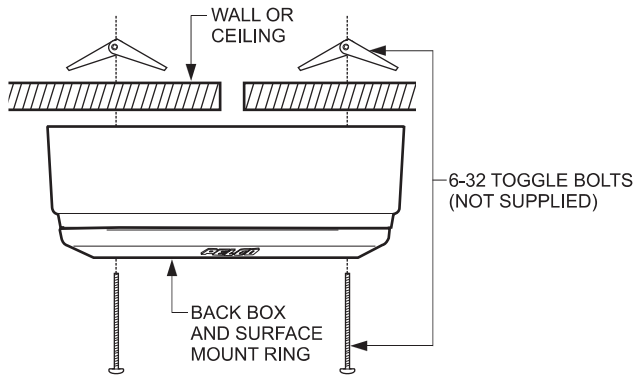
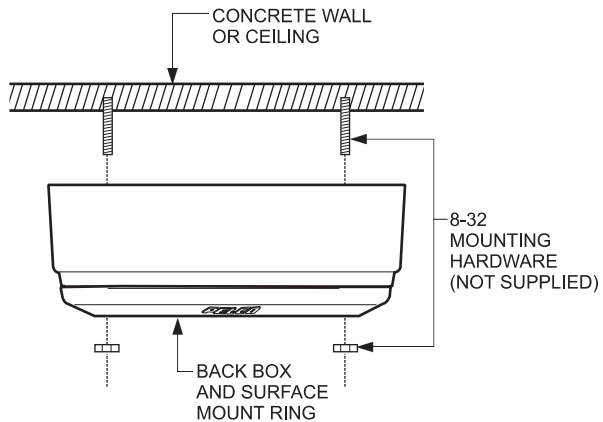

Figure 2. Ceiling/Wall Installation
Figure 3. Concrete Ceiling/Wall Installation
Refer to Figure 2 on page 8 for the following steps. Refer to Figure 3 on page 8 if you are installing the unit to the surface of a concrete ceiling or wall.
- Use 6-32 toggle bolts (not supplied) to attach the surface mount ring and back box to the mounting surface (refer to Figure 2).
NOTE: For a concrete ceiling or wall installation, use 8-32 mounting hardware (not supplied), refer to Figure 3.